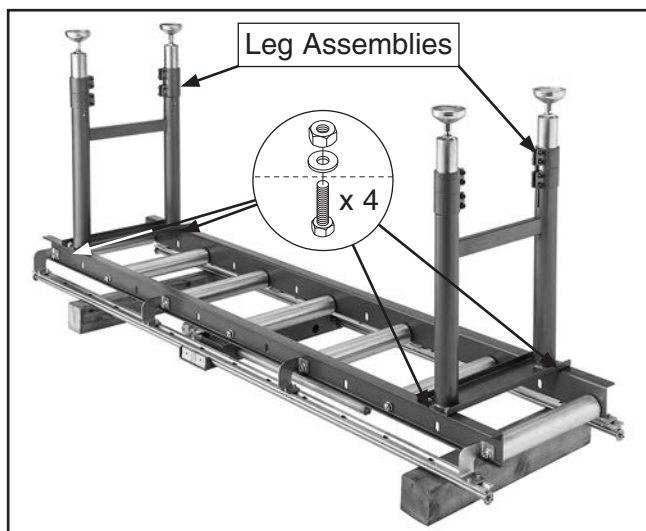

Figure 4. Attaching leg assemblies.
3. Attach each leg assembly (2 for T28173, 3 for T28174) to table assembly with (4) M8-1.25 x 16 hex bolts, (4) M8-1.25 hex nuts, and (4) 8mm flat washers per leg (see **Figure 4**). Finger-tighten for now.